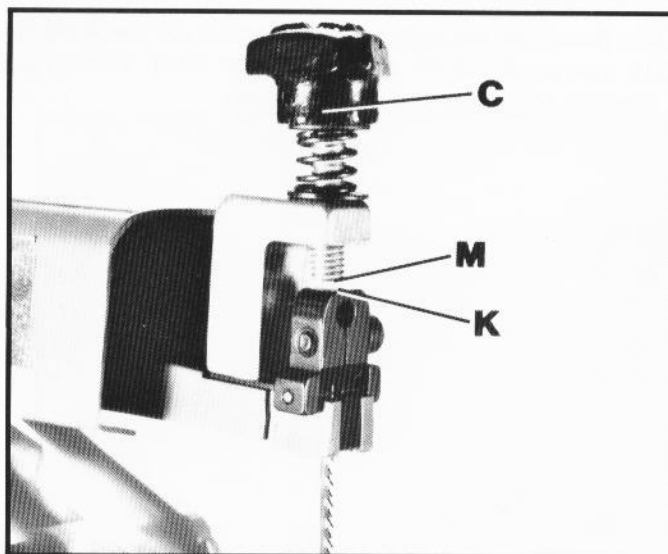

Fig. 28
10. **IMPORTANT: TURN BLADE HOLDER LOCKING KNOB (C) FIG. 27, COUNTERCLOCKWISE UNTIL THERE IS A DISTANCE OF 1/16" BETWEEN BOTTOM OF LOCK KNOB SCREW (M) FIG. 28 AND TOP OF BLADE HOLDER (K) AS SHOWN.**